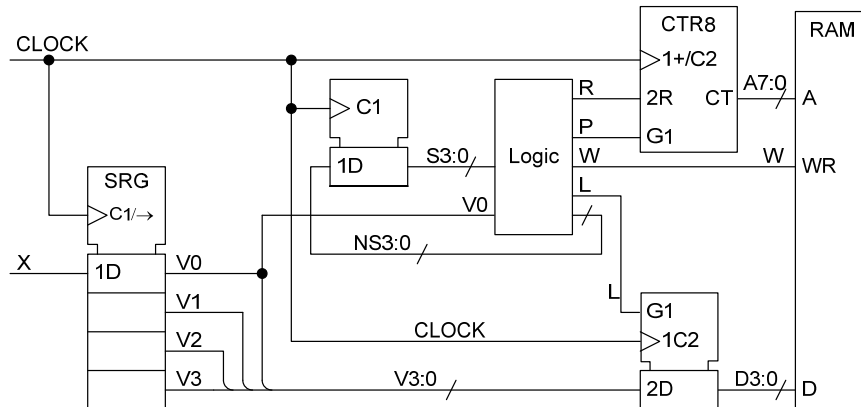

Figure 3.1
3. Figure 3.1 shows a circuit that receives serial data at its input, X, and stores the received 4-bit values (nibbles) in a random-access memory (RAM). Each nibble is transmitted on X as a “1” followed by the four data bits e.g. 1011 is transmitted as 11011. Successive nibbles are separated by an arbitrary number of “0”s (including none). All transitions in X occur shortly after the rising edge of CLOCK. If the logic-block output, R, is high, the address counter (labelled CTR8) is reset on the next CLOCK rising edge.